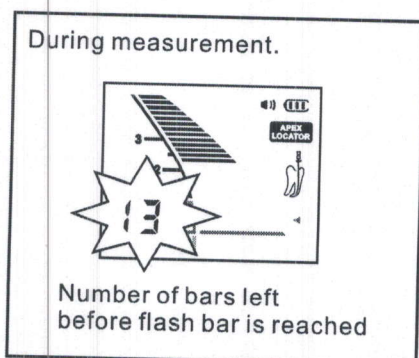

Fig.20
**Information display : Number of bars left before flash bar is reached (during measurement). (Fig.20)**